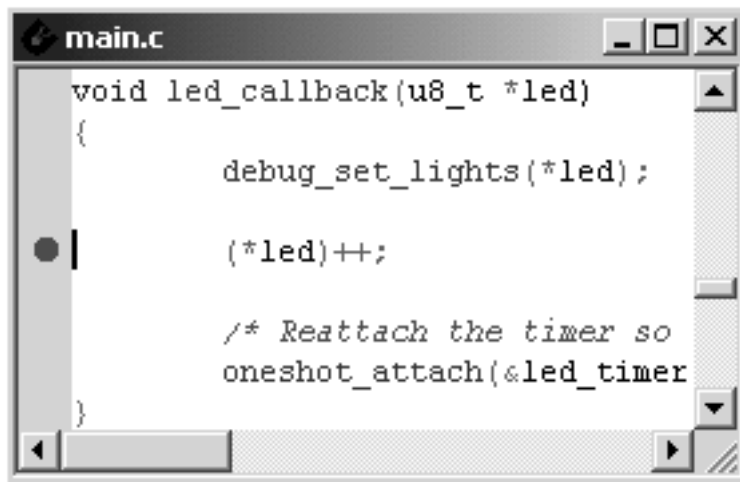

Figure 7-2 Setting a Breakpoint
3. *Set a Breakpoint*—click on the line that says `(*led)++;`. Click the Toggle Breakpoint of icon to set a breakpoint. A red circle appears in the gray bar along the left edge of the source file window to indicate a breakpoint has been set, as shown in Figure 7-2. Unity supports Multiple breakpoints in program flash memory. To enable or disable multiple break points Use menu->Tools->Options->Debugger tab page. Any number of breakpoints can be set in program RAM. Select the View -> Breakpoint List command to examine the breakpoints which have been set.